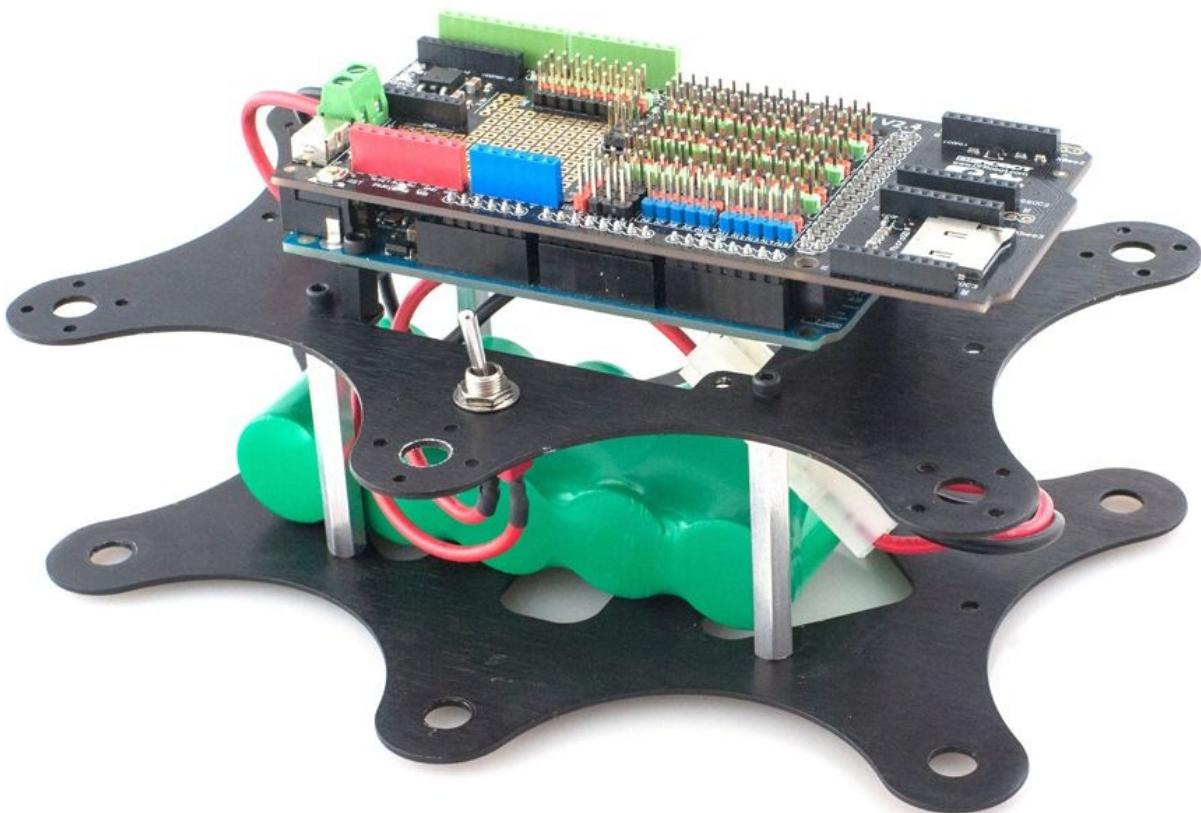

Figure 5-3. Chassis with electronics and power
4. The rechargeable Ni-MH battery fits snuggly between the chassis offsets. You won't need any mounting hardware. Insert the battery at a 45° angle and rotate it into place. Figure 5-3 shows the assembly so far.